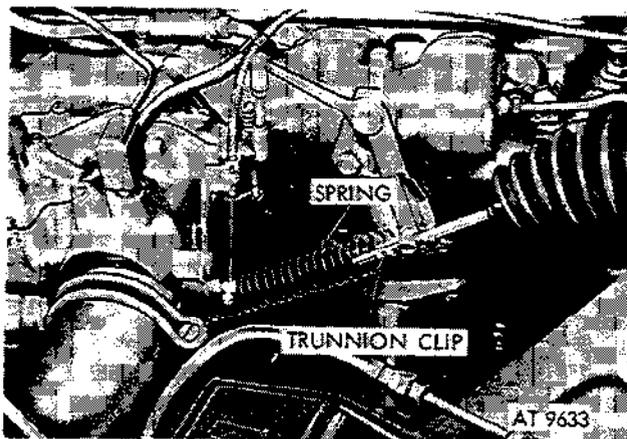

Figure 2-99. Remove spring and trunnion clip.
(1) Remove accelerator pedal return spring and trunion retaining clip (fig. 2-99).
c. *Adjustment.* Adjust threaded trunion on accelerator pedal rod (fig. 2-99) to obtain wide open throttle at carburetor with $\frac{1}{4}$ inch clearance under accelerator pedal pad. Obtain the adjustment as follows: With the accelerator or rod disconnected at the bellcrank, pull hand throttle out until accelerator pedal rests on floorboard. Block carburetor to full open position. Adjust threaded link to a slip fit in bellcrank. Turn link approximately one full turn to the right, and reassemble.